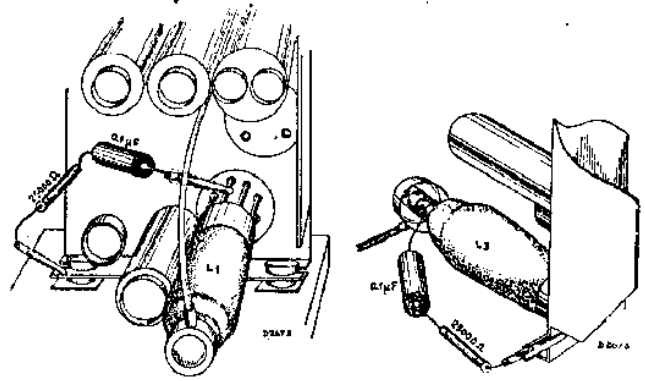

Fig. 3.
6. De-tune the first I.F. circuit by connecting 25,000 ohms and 0.1 μ F between the anode of L1 and chassis. (Fig. 3.)
8. Remove condenser from first I.F. circuit and de-tune the second I.F. circuit by means of 25,000 ohms and 0.1 μ F connected between control grid of L3 and chassis. (Fig. 3.)
3. Detune first I.F. circuit by connecting 25,000 ohms + 0.1 μ F between anode L1 and chassis. (Fig. 3.)
- III. Apply modulated I.F. signal (via 32,000 $\mu\mu\text{F}$) (Fig. 3) to grid 1 of L1.